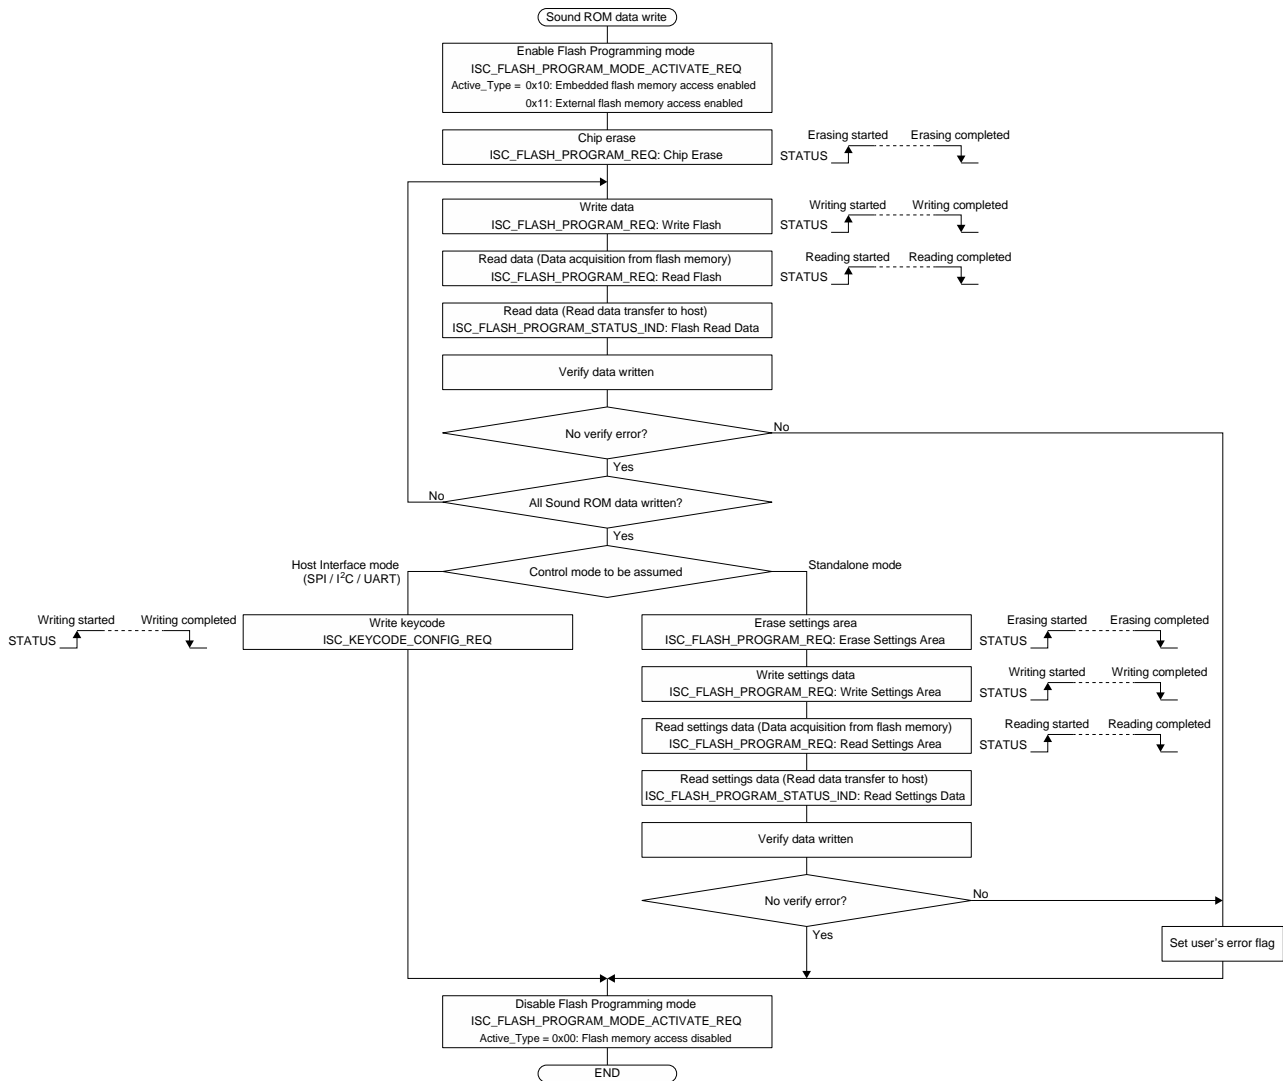

Figure 8.32 Sound ROM Data Writing Flow
*1: See Figure 8.32 in "8.4 Writing Sound ROM Data."